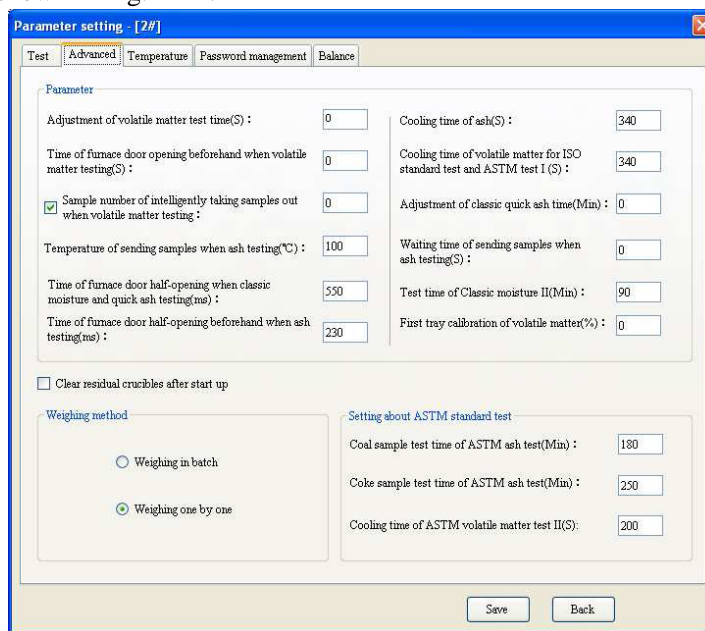

Fig.4-2-2
2. Advanced tab as shown in Fig.4-2-2: